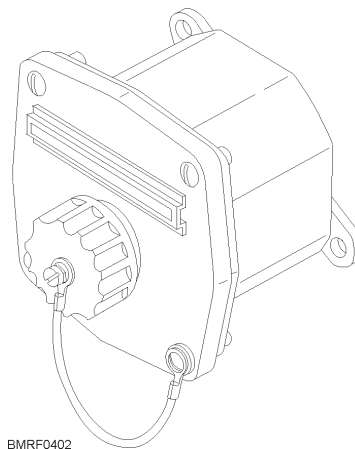

Figure 4-2.—Sound-powered telephone jack box.
1. Remove the plug from the jack box (fig. 4-2) by holding the plug in one hand and unscrewing the collar with the other. When the collar is loose, grasp the plug and pull it out. Don't pull on the lead to remove the plug; that will weaken and eventually break the connection. When the plug is out, lay it carefully on the deck. Immediately screw the cover on the jack box, as dust and dirt will soon cause a short circuit in a jack box left uncovered. (**NOTE:** If you see an uncovered jack box, cover it, even though you were not responsible for the carelessness.)